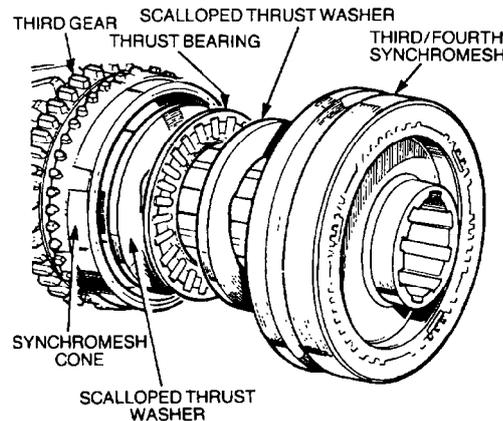

Figure 166 Installing the Third and Fourth Synchronmesh
- i.** Install a scalloped thrust washer, a thrust bearing and another scalloped washer on the mainshaft. Position a synchronmesh cone on the third gear and fit the third and fourth synchronmesh assembly, ensuring that the coned face is towards the rear of the mainshaft (Figure 166).